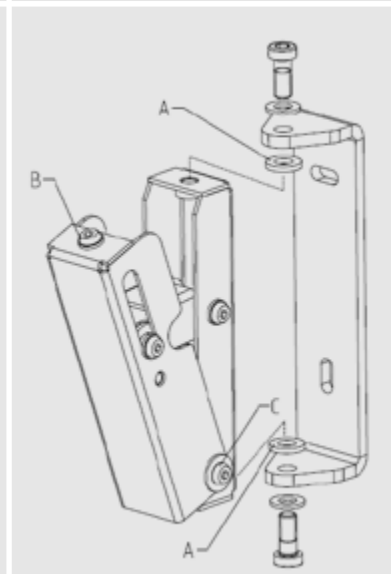
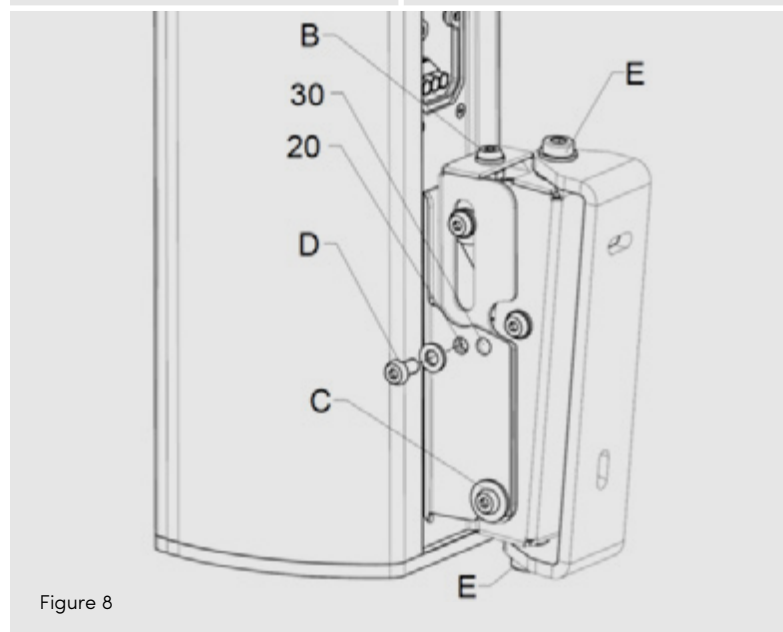

Figure 7
Figure 8
4. Fix the **WLX-100** or **WLX-221** to the building structure using two screws and wall plugs. To do this, you will need to disassemble the mounting bracket from the wall bracket. During installation, don't forget to place the two tooth-lock washers (A) between the mounting bracket and the wall bracket. Make sure that the wall bracket is mounted with the horizontal slot facing upward. **SEE FIGURE 7.**
5. Put the mounting bracket in a roughly vertical position by turning the adjustment spindle (B) to the right.
6. Place the loudspeaker and its mounting plate on the wall bracket. Both sides of the mounting plate must be resting on the screw (C). **SEE FIGURE 8.**
7. At this point the fixing screws (D) can be fitted and tightened with a torque of 8-10 Nm. There are two options here: If the front holes (20) are to be used, this will result in an adjustment angle of 0-20°; if the rear holes (30) are used, this will result in an adjustment angle of 10-30°.
8. Set up the required inclination angle by turning the adjustment spindle (B) to the left. If you need to reduce the angle again, turn the spindle back while pushing the speaker slightly up towards the wall bracket and thus releasing the spindle.
9. Loosen the clamping screws (E) on the horizontal axis and turn the loudspeaker to its required position.
10. Once you are happy with the loudspeaker's angle and rotation, tighten the clamping screws (E) with a torque of 20 Nm. Tighten the screws (C, F, G) with a torque of 8 to 10 Nm.